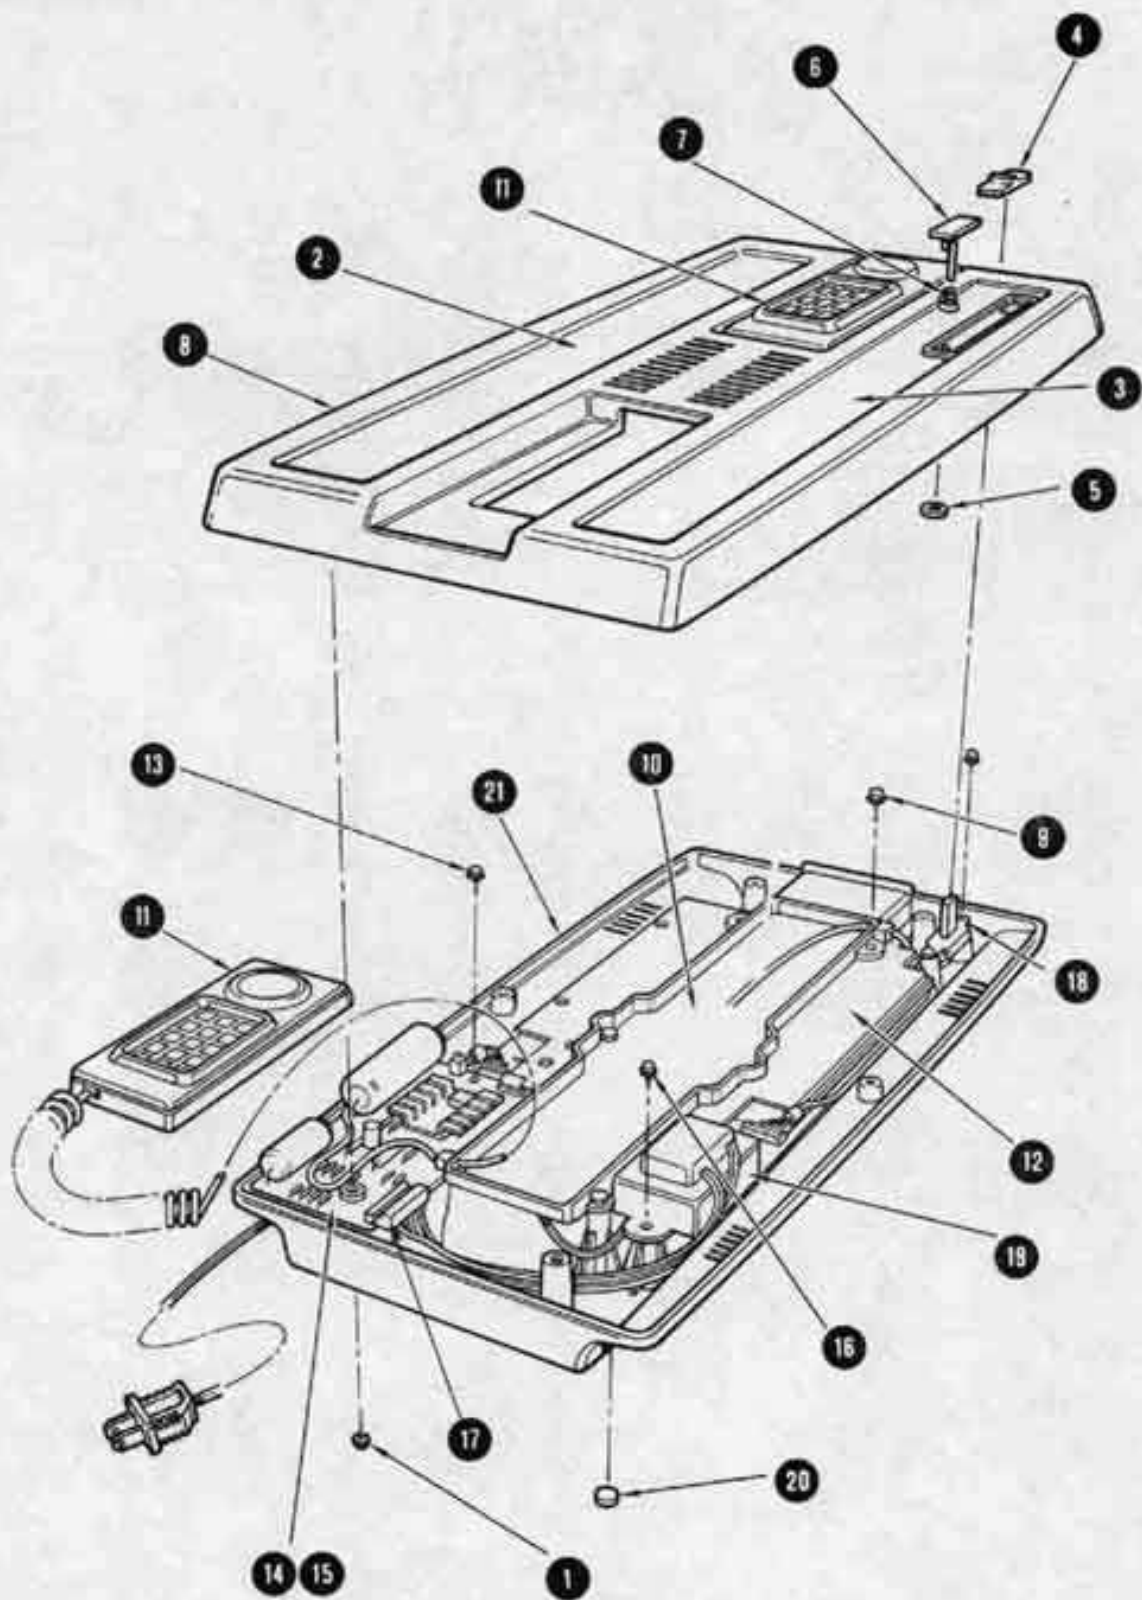

Figure 6-1 EXPLODED VIEW . . . . . Console Assembly
NOTES: 1. INDEX NUMBERS REFER TO FIGURE 6-1.
**5-2. ASSEMBLY OF CONSOLE ASSEMBLY.** Refer to Figure 6-1 (Page 6-3) and assemble the console assembly as follows:
f. Carefully connect the 5-pin ribbon cable (42, Figure 6-3) and 2-pin connector (58) from the PCB Logic (12, Figure 6-1) to the PCB Power Supply (14) as illustrated in Figures 5-1 and 5-2.
g. Install tray (10) in bottom housing assembly (21) and secure in place with six screws (9).
h. If removed, install spring (7), reset button (6) and fastener (5) on top housing assembly (8).
i. Slide hand controller assemblies (11) through openings in top housing assembly (8). Install top housing assembly on bottom housing assembly (21).
k. Carefully invert console assembly and secure top housing assembly (8) to bottom housing assembly (21) with six screws (1).
b. Locate the desired part on Figures 6-1 through 6-4 and note the numerical index number or reference designator of the part, as applicable.
**6-2. DETAILED PARTS LIST.** Replaceable parts and assemblies for the Mattel Intellivision Master Component are illustrated in Figures 6-1 through 6-4 and identified by index number in the associated detailed parts lists.